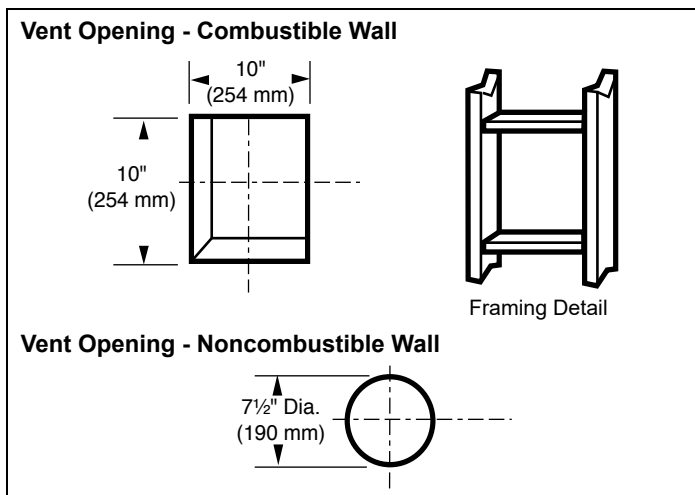

Figure 3.20 - Locate vent opening. NOTE: Zero clearance sleeve is required for combustible wall installations.
1. Locate the vent opening on the wall. Refer to Figures 3.20 & 3.21 to determine the top of the opening centerline. It may be necessary to first position the stove and measure to find the hole location. Depending on whether the wall is made of combustible materials, cut the opening to the size shown in Figure 3.20. Combustible wall openings must be framed as shown in Figure 3.20.